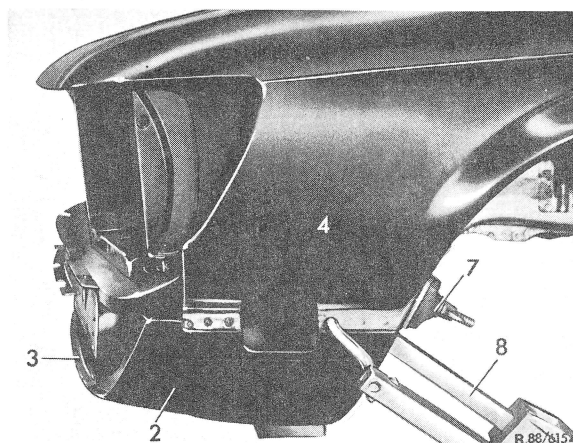

Fig. 2
- 10 Grind spot weld flange on fender bottom (2) bright.
- 12 Fit fender bottom (2) to fender (4) and clamp with hand vise (7) (Fig. 2).
- 13 Screw fender bottom (2) with molding (3) between front fender front center.
- 14 Weld fender (4) and fender bottom (2) by means of spot welder (8) (Fig. 2).